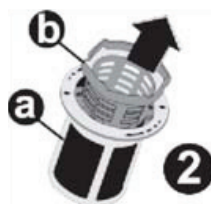

fig 10
3. Remove the coarse filter from the microfilter (figure 10).